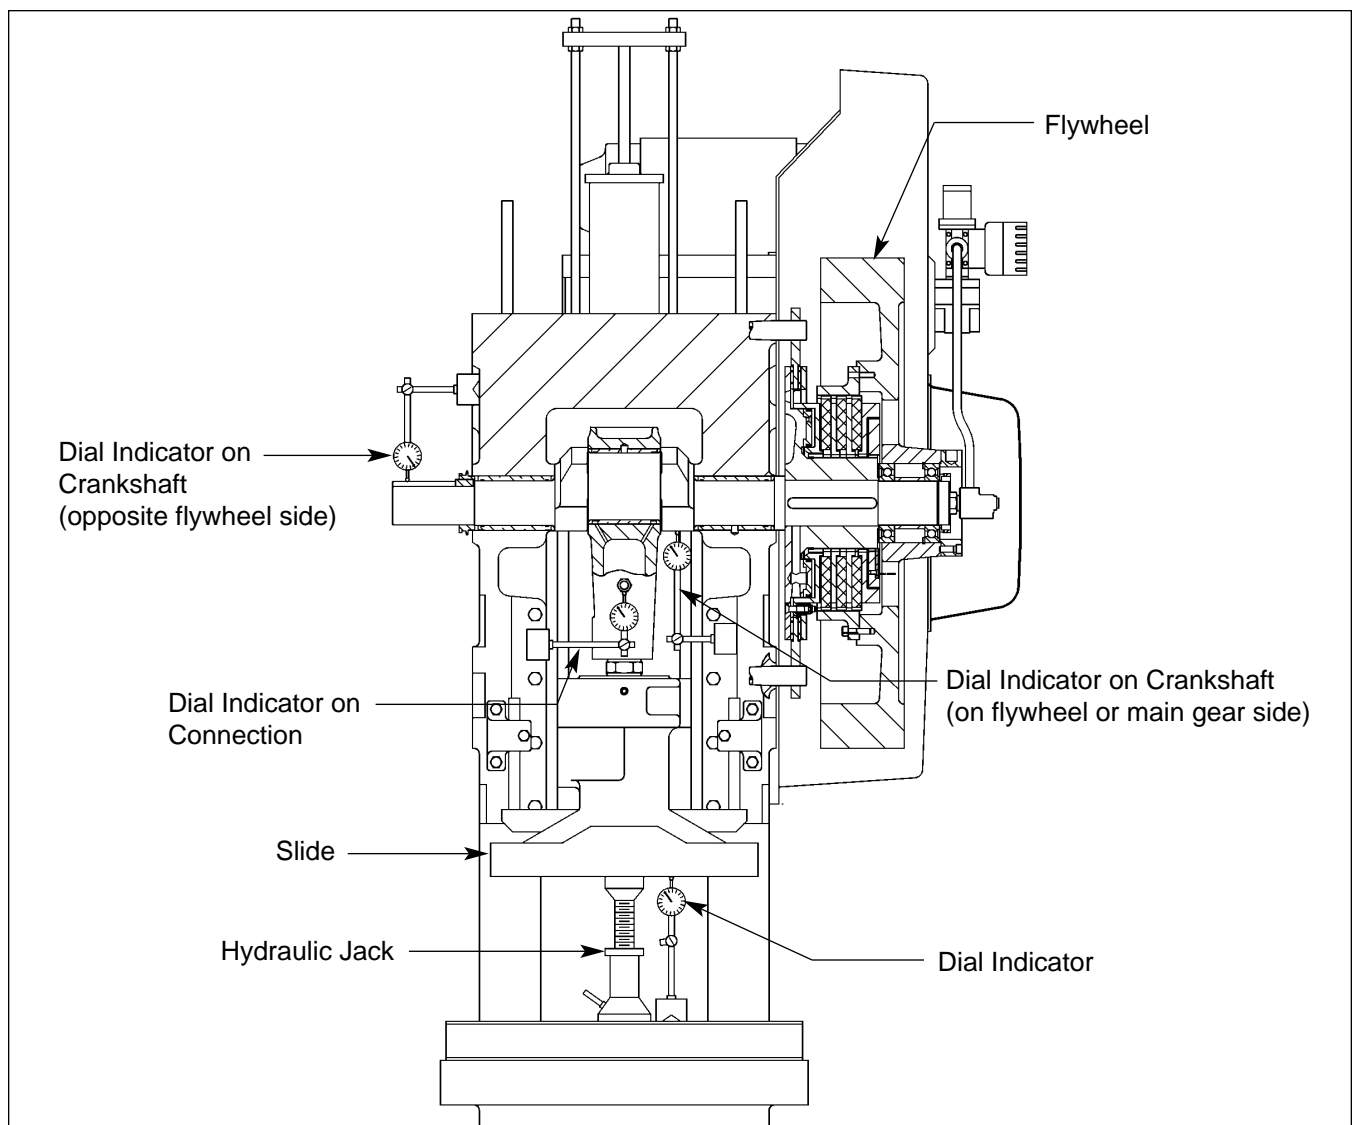

Figure 1G. Checking individual bearing clearances.
10. Place a dial indicator on the press frame and indicate to the crankshaft. Make certain the indicator is placed on the flywheel (or main gear) side of the press. (See Figure 1G.) Set the indicator dial to "0" reading.